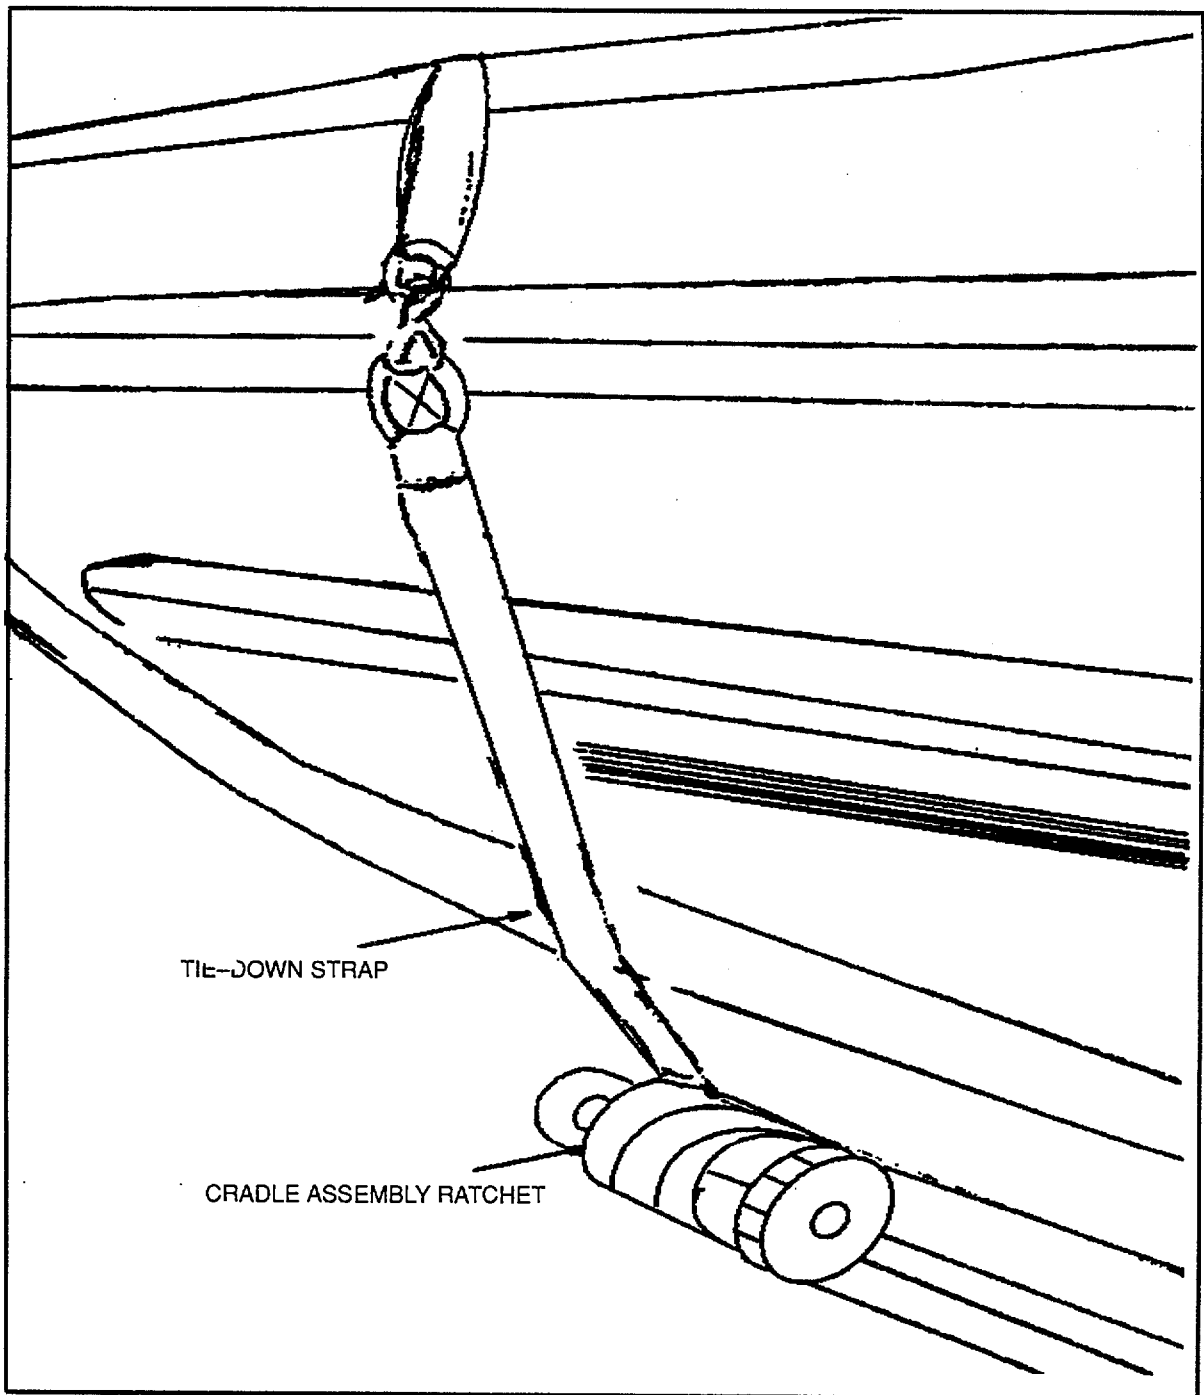

Figure 3-8. Workboat Cradle Tie-Down with Ratchet
- g. When ready, release tension on three tiedown straps (Figure 3-8) on each side of cradle and station crewmembers on control lines. Using crane winch, lift boat about 6 inches vertically from cradle.